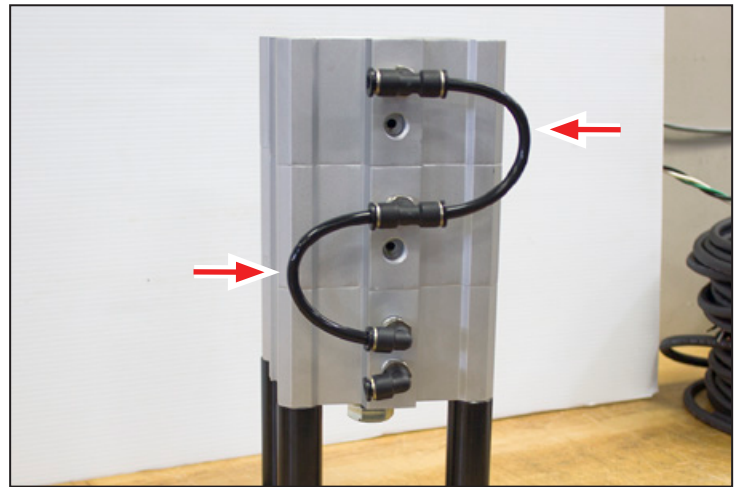

Figure 3
4. Install the air fittings in the power drawbar cylinder in the order specified, from top to bottom (see **Figure 2** and **Figure 3**):
When complete, verify that your power drawbar cylinder matches **Figure 3**.
6. While facing the power drawbar cylinder, put one plastic tube between the left sides of both T-connector air fittings as shown in **Figure 3**.
- Put the remaining plastic tube between the right sides of the T-connector air fitting and the elbow connector air fitting in as shown in **Figure 3**.